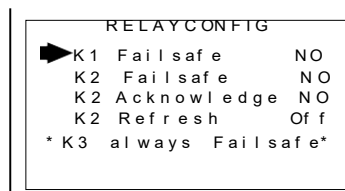

Figure 5-7: Relay Config. Menu
**Relay Config** has the submenu shown in Figure 5-7. The optional relay PCB must be installed to access this menu or a “HARDWARE NOT PRESENT” message appears.